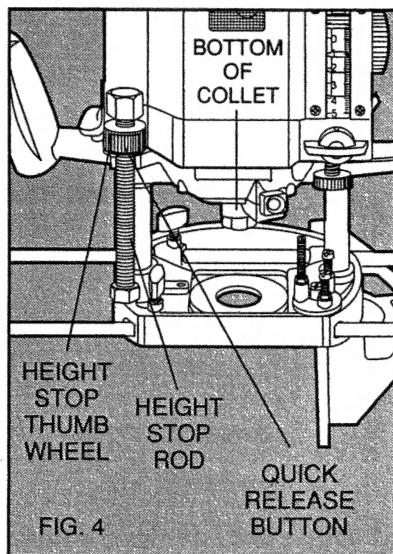

FIG. 4
As its name implies, the height stop rod and thumb wheel limit how high the unit can travel up the rails. The system is adjustable from full down where the unit cannot rise regardless of the position of the plunge release lever to full up where the bottom of the collet is 2-7/8" above the workpiece (See Figure 4).
2. Position the height stop thumb wheel at the top of the height stop rod. (See Figure 4) You can either turn the thumb wheel or use the handy quick release button discussed above.